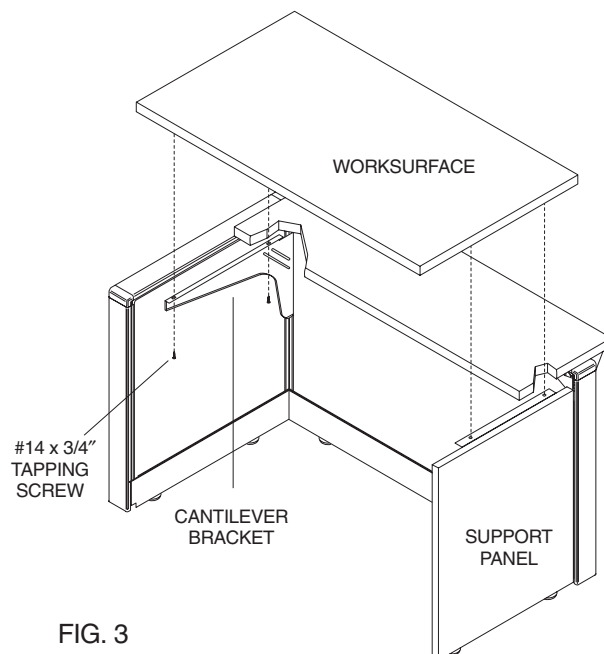

FIG. 3
10. Position the worksurface on the cantilever bracket and the worksurface support panel (or cantilever bracket). Attach the worksurface to the cantilever bracket and the support panel using (4) #14 x 3/4" tapping screws (Figure 3).